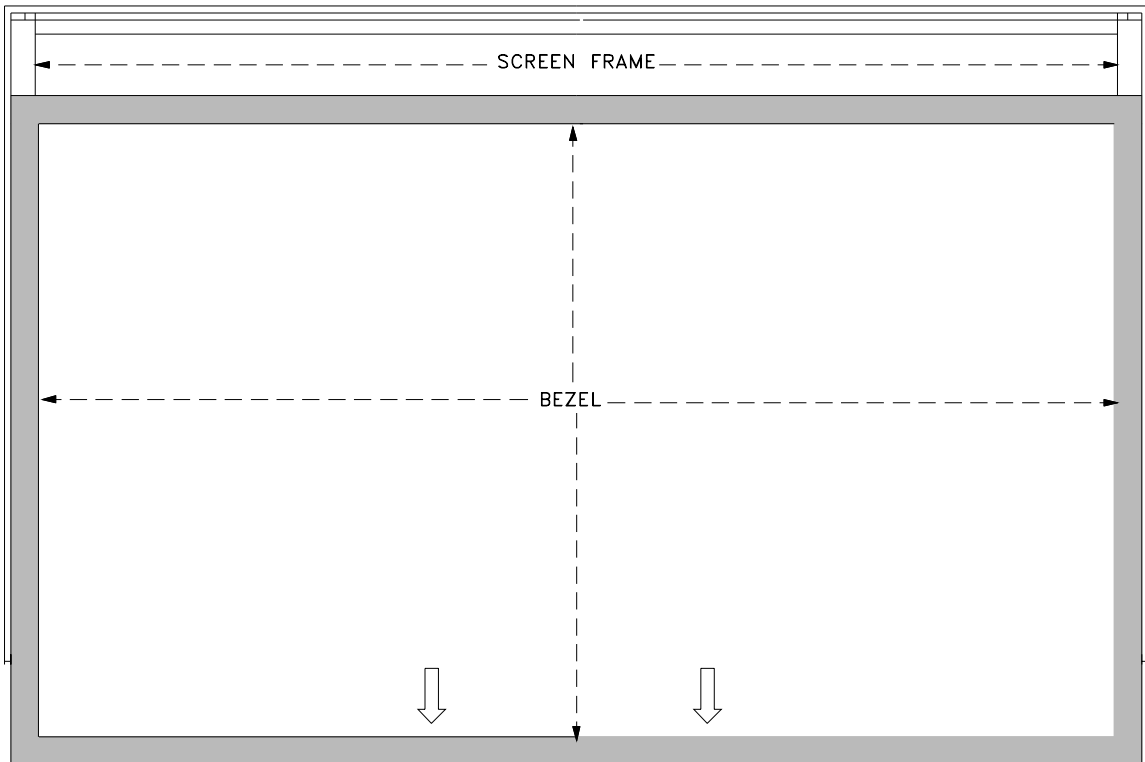

Figure 2: BEZEL Removal (Front View)
3. From the front of the screen assembly, slide the BEZEL out the bottom of the Screen Frame. (Figure 2)